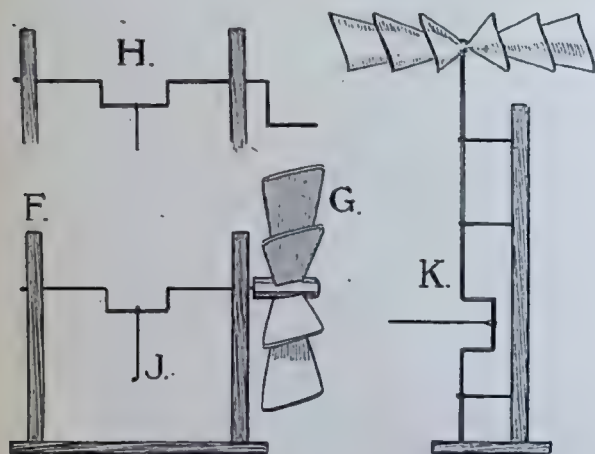

FIG. 3.—DETAILS OF MECHANISM.
a detailed list of the working parts (squared for drawing full size), and Fig. 3, a hint or two as to
at Fig. 3, out of $\frac{1}{4}$ in. wood. Size is about $3\frac{1}{2}$ ins. high by 1 in., tapering to $\frac{3}{8}$ in. above. They should be fitted into a base block, 4 ins. by $1\frac{1}{2}$ in. by $\frac{1}{4}$ in., which can be glued to the base board. The latter can be of $\frac{1}{2}$ in. deal, about 4 ins. wide by 14 ins. long, and should be grooved in the centre to the bare thickness of the ground line, so that this will be gripped tightly when glued and inserted.
If it is desired to work the toy by hand the windlass may be finished with a simple handle, as at H, Fig. 3; if by wind a fly-wheel can be fitted to the windlass (G), power being got from a pair of bellows. The windlass is connected to the pig's nose by a short length of copper wire J, eyed on to the windlass rod loosely so that it revolves freely on the part to which it is attached;